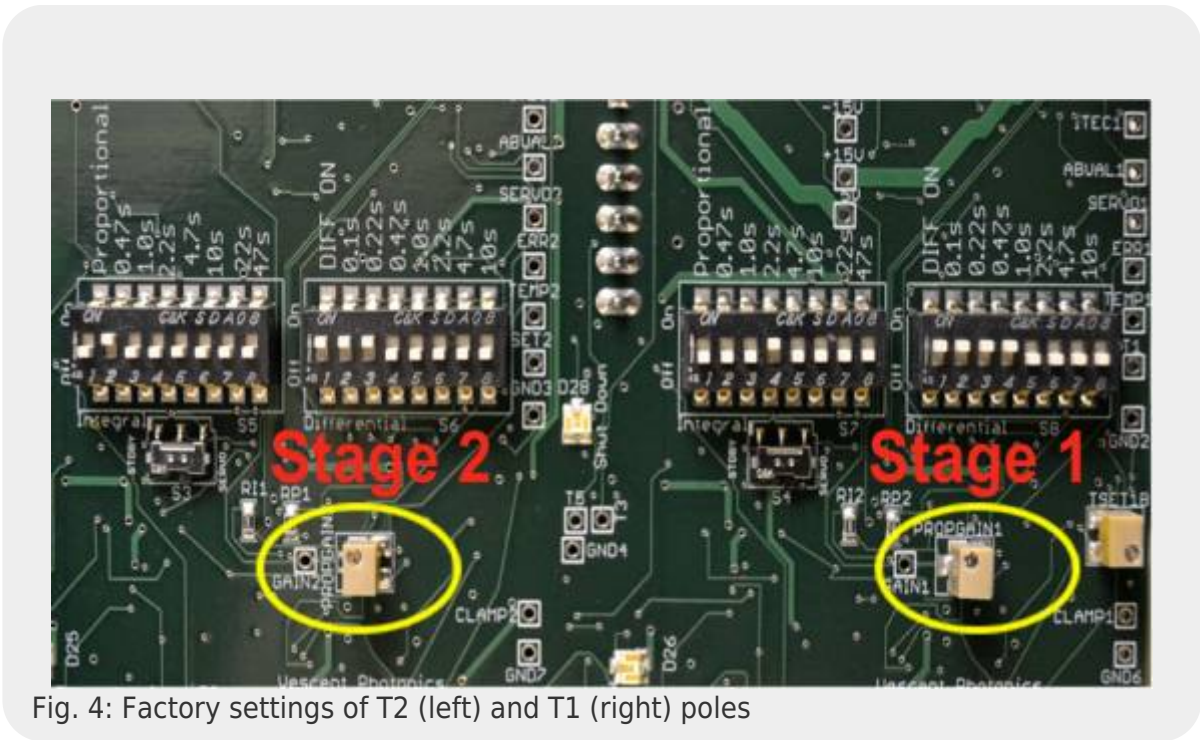

Fig. 4: Factory settings of T2 (left) and T1 (right) poles
1. Set the dip switches to the configuration shown in table 6 and table 7 and figure 4.